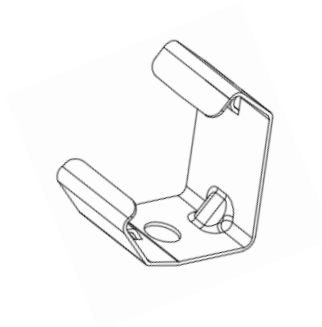

Figure. 2.
- Mount the bracket against the mullion using a power drill and the provided self-tapping screws. (as Figure.2)